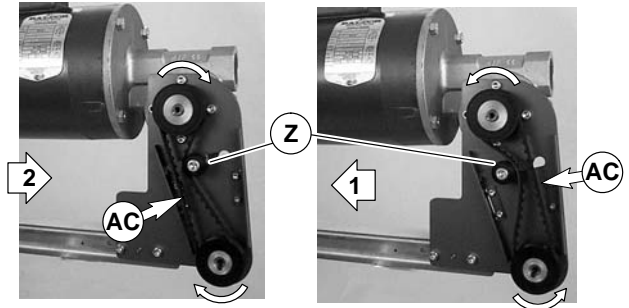

Figure 17
10. Depending on direction of conveyor belt travel (1 or 2 of Figure 17), position belt tensioner (Z) as shown. Tension belt to obtain 0.125" (3 mm) deflection for 1.0 lb (456 grams) of force at belt mid-point (AC). Tighten tensioner screw to 103 in-lb (12 Nm).
3. Depending on direction of conveyor belt travel (1 or 2 of Figure 17), position belt tensioner (Z) as shown. Tension belt to obtain 0.125" (3 mm) deflection for 1.0 lb (456 grams) of force at belt mid-point (AC). Tighten tensioner screw to 103 in-lb (12 Nm).
5. Depending on direction of conveyor belt travel (1 or 2 of Figure 17), position belt tensioner (Z) as shown. Tension belt to obtain 0.125" (3 mm) deflection for 1.0 lb (456 grams) of force at belt mid-point (AC). Tighten tensioner screw to 103 in-lb (12 Nm).